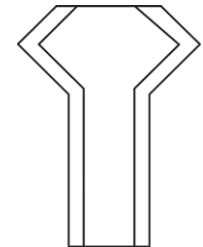

Fig 4
4. Gradually wind the cone downwards until the pipe looks like Fig 4.